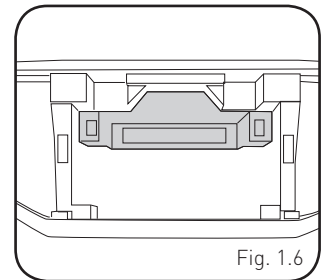

Fig. 1.6
- To make room for the aftermarket radio, cut out small section of the upper dash cavity (highlighted). (Fig. 1.6)